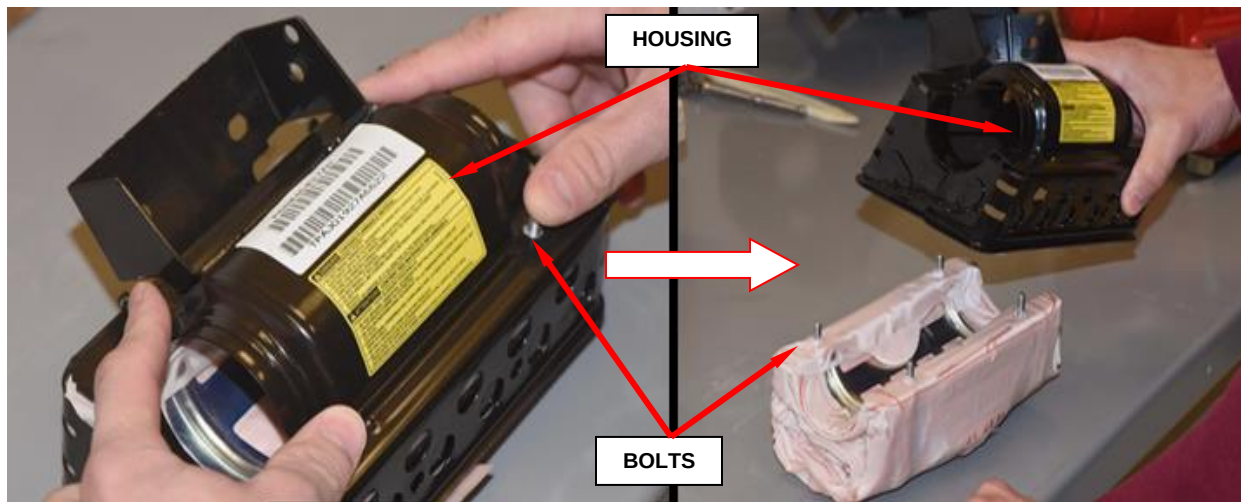

Figure 100 - Remove Airbag Cushion from Housing
- d. Release the white wire from the three housing hooks (Figure 100).
- f. Remove and save stopper plate from housing (Figures 100 and 101).